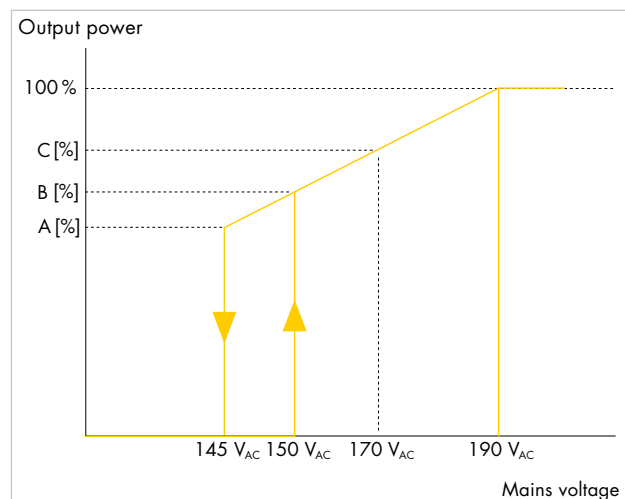

Figure 4: Input voltage vs. output power
* At input voltages below 190 V, the driver protects itself as shown in figure 4.
In case of a very low input voltage, the driver protects itself against being damaged by high input currents. The behaviour of the driver can be seen in figures 4 and 5.